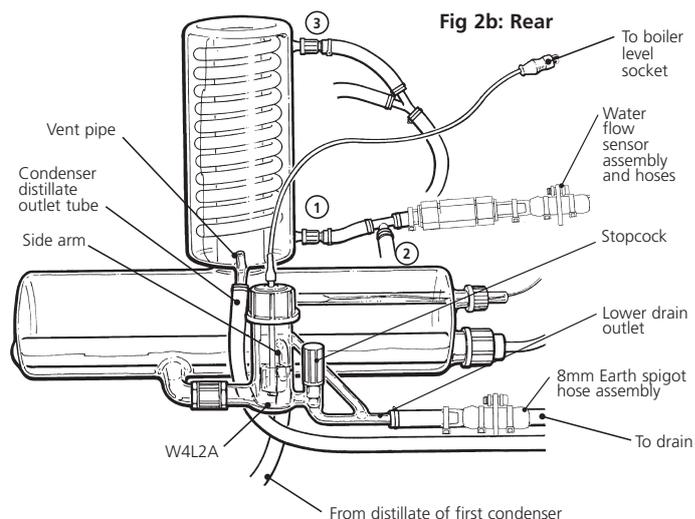

Fig 2b: Rear
11. Take the rear Boiler Level Control W4L2A and connect the 8mm x 300mm vinyl tubing from hose kit I/WH48/3/B to the side arm and tie wrap (Fig. 2b). Remove the end split nut and central part of the boiler plastic coupling leaving the other split nut on, and the internal seal in the boiler level control. Ensure the stopcock is fully closed (screwed down).